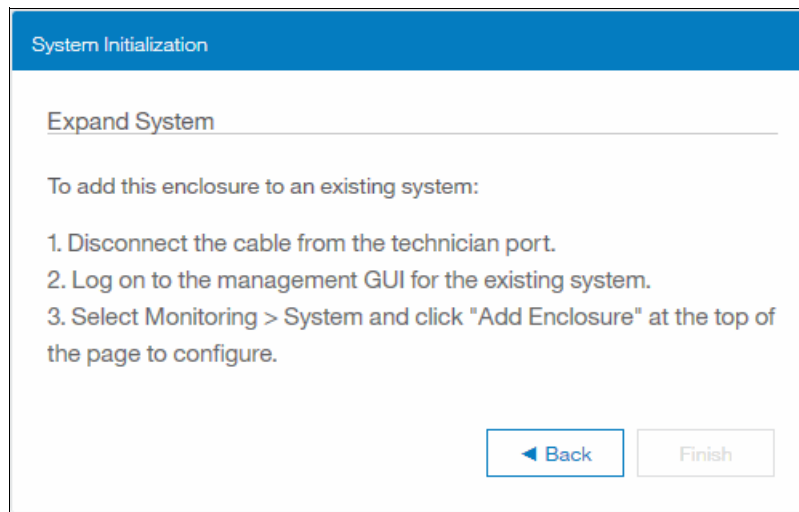

Figure 6-59 System initialization expand system pane
9. The System Initialization Expand System pane is displayed (Figure 6-59).